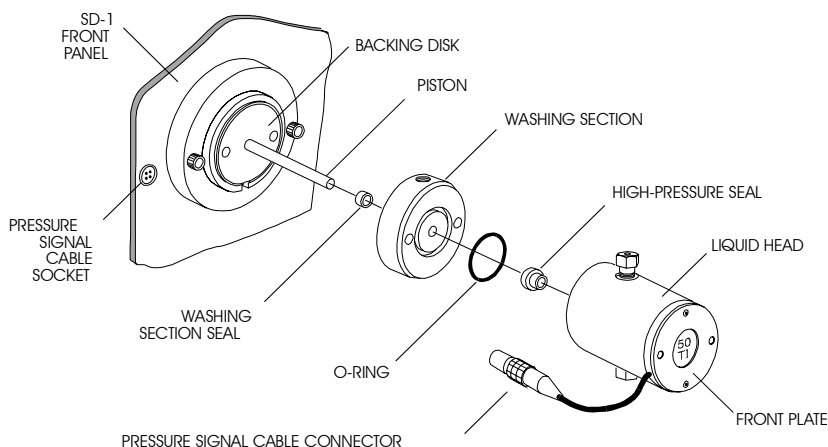

Figure 19 Liquid Head Exploded View (50 mL/min head shown)
5. Align the liquid head so that the slot at the bottom is lined up with its matching slot in the housing on the front panel (see Figure 19). Supporting the weight of the liquid head, carefully slide it along the piston until it stops.